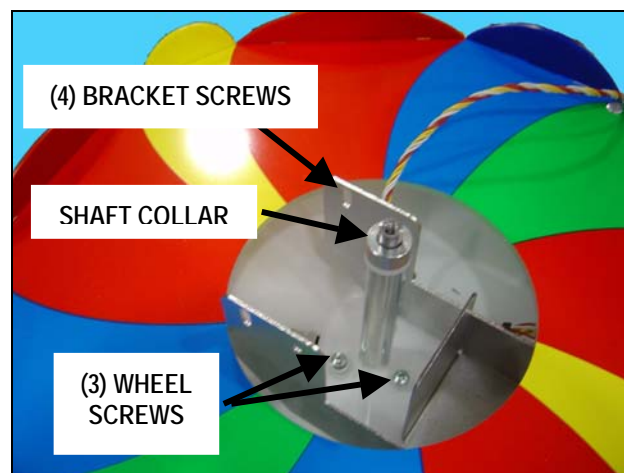

Figure 14 Wheel brackets
4. Remove the four small machine screws and washers holding the wheel brackets to the side panel bracket. See above and Figure 14. Pull the side panel from the shaft.
5. Loosen the setscrew on the shaft collar and remove the shaft collar and nylon washer. See Figure 14.